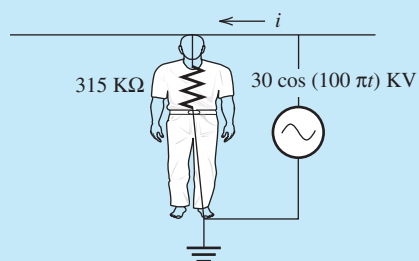
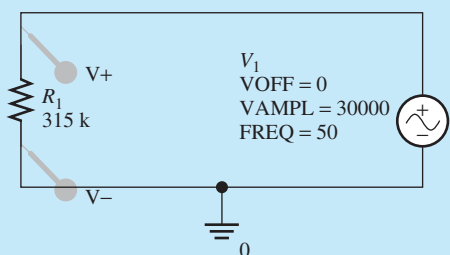

FIGURE 2.85 The equivalent circuit for Example 2.24.
FIGURE 2.86 PSpice schematic circuit for Example 2.13.
Consider the unfortunate bald utility worker of Example 2.13 who climbs an aluminum ladder with bare feet and comes into contact with an overhead power line bearing $30 \cos(100 \pi t)$ kV (Figure 2.86). The worker’s body resistance is $315 \text{ k}\Omega$. This situation can be modeled as a resistor (his body) connected between the terminals of a power supply (the wire) (Figure 2.85). How much current flows through his body? If the minimum current needed for a shock to be fatal is 100 mA , does the worker survive?
1. Instead of using the Direct Current Voltage Source, a sinusoidal voltage source has been chosen. The sinusoidal voltage source for PSpice can be obtained by typing “VSIN” in the “Place Part” window; its amplitude and frequency are set as shown in Figure 2.86.